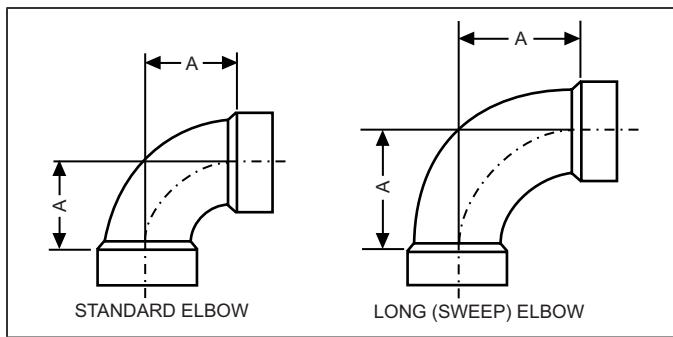

FIGURE 29: Dimensions
1. Drain, waste, and vent (DWV) elbows with a long radius (sweep) are recommended. Standard DWV elbows may be used, but since they have a longer equivalent length, they will reduce the total length of pipe that will be allowed. Short radius (plumbing or pressure) elbows are not allowed for venting. The standard dimensions of the acceptable elbows are shown in Figure 29.
Elbow	"A" Dimension (Illustrated in Figure 29)